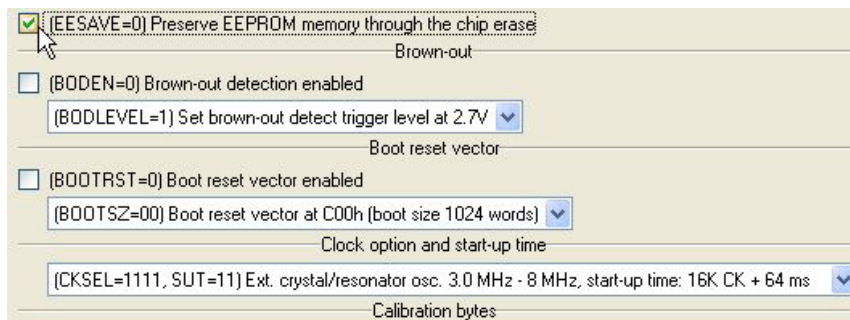

FIGURE B-8: COMPONENT CONFIGURATION USING PG4UW
- B6) Configure the component using the menu Device options | View/Edit options and security. The component must be configured as indicated in figure B-8, that is the configuration required to make the demo program d_am328u1.hex work. Quartz and start-up time options must be configured like in the figure. Other settings are not important. Of course, the user can perform any other configuration required by his/her application.